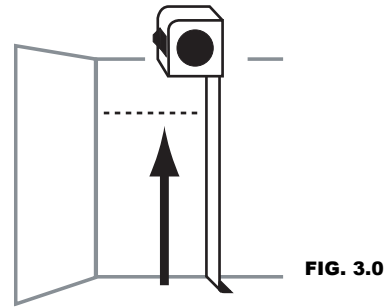

FIG. 3.0
- Using the height location measurements for the (A) shelves, measure from the floor up and **mark the top shelf location** on the back closet wall. (Fig. 3.0)